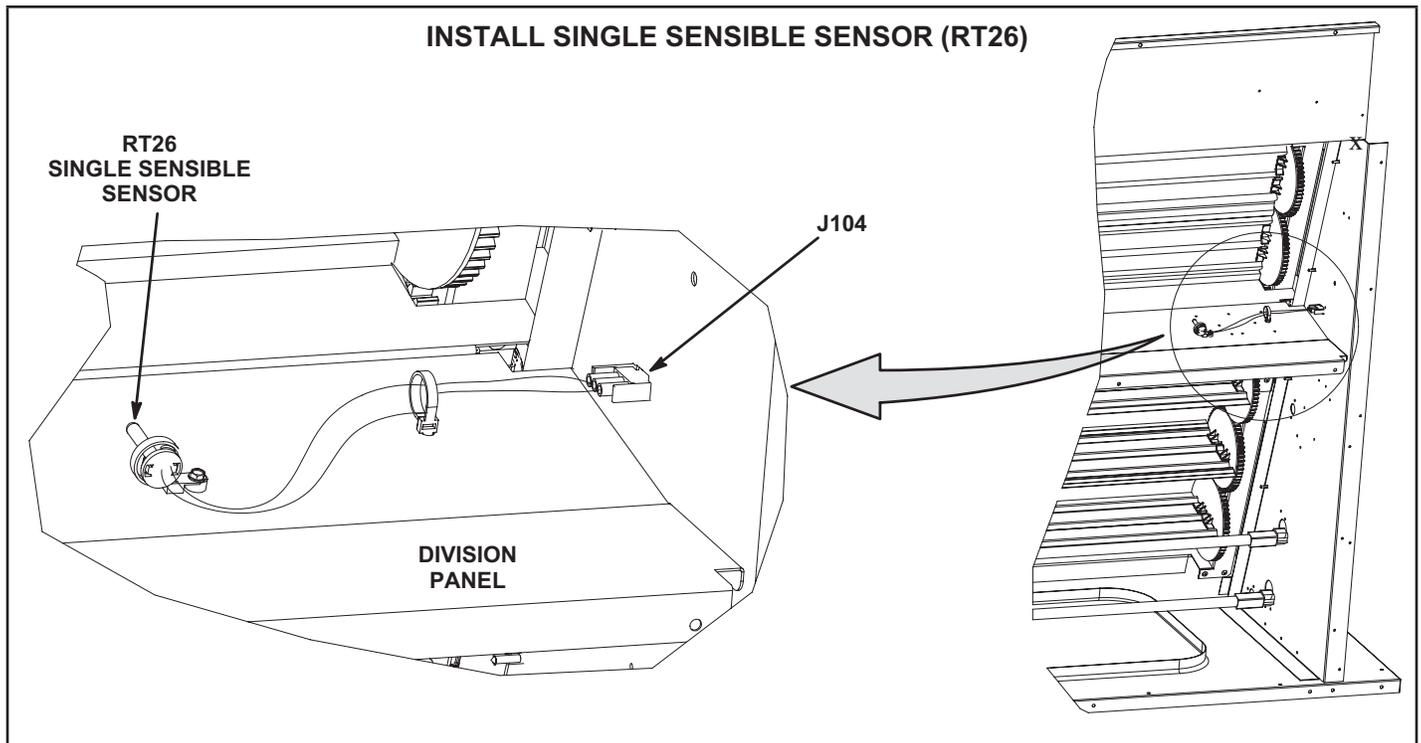

FIGURE 26
- 1 - Install RT26 sensor onto the divider panel as shown in FIGURE 26. Use #6-32 X 7/8" TFS screws provided.